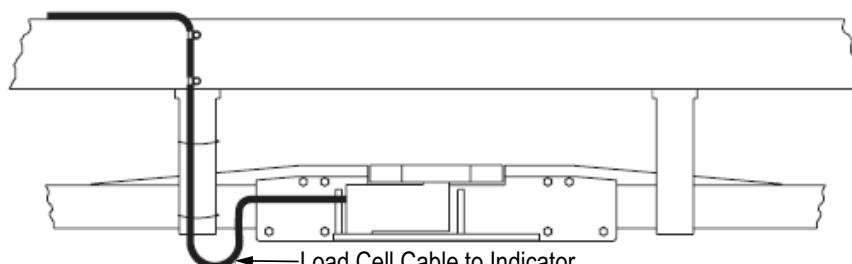

Figure 2-4. Suggested Load Cell Cable Attachment
**CAUTION:** Do not cut the load cell cable. It is recommended that the cable be attached to the rail assembly to prevent the possibility of damage (Figure 2-4).